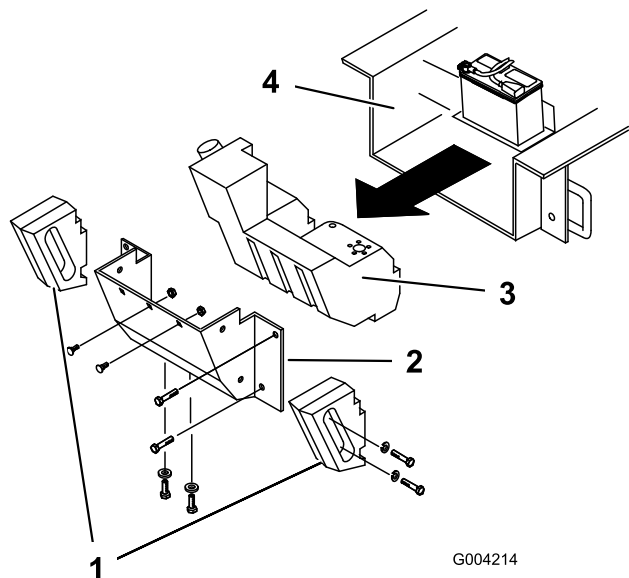

Figure 63
Using a flashlight, open the hood and inspect the area under the engine on a regular basis. When the debris is 1 to 2 inches deep, complete the following procedure (refer to Figure 63 throughout this procedure):
4. Remove the bolts, washers, and lock washers securing the 2 side weights, removing the weights (Figure 63).
7. Remove the 6 nuts and bolts securing the rear panel, removing the panel (Figure 63).
9. Slide the fuel tank to the rear (Figure 63).
16. Slide the fuel tank part way into the chassis (Figure 63).
22. Replace the rear panel and secure it with the 6 bolts and nuts removed previously (Figure 63).
24. Install the side weights with the bolts, washers, and lock washers removed previously (Figure 63).